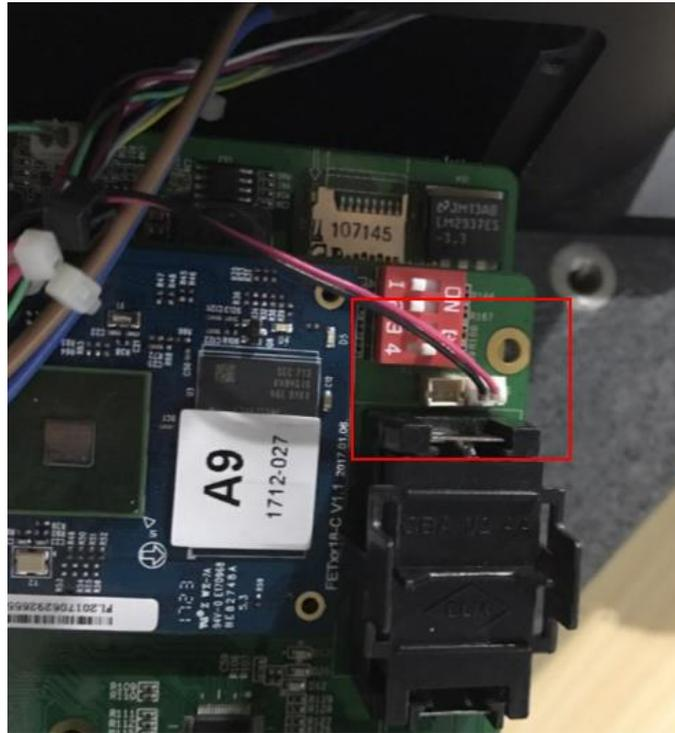

Figure 7.6 Connection between battery and robotic arm
- If a fuse is not installed on the battery, please remove the cover of battery holder to take out the original battery and detach the battery connector of bus cable connecting to the battery holder, as shown in Figure 7.6.